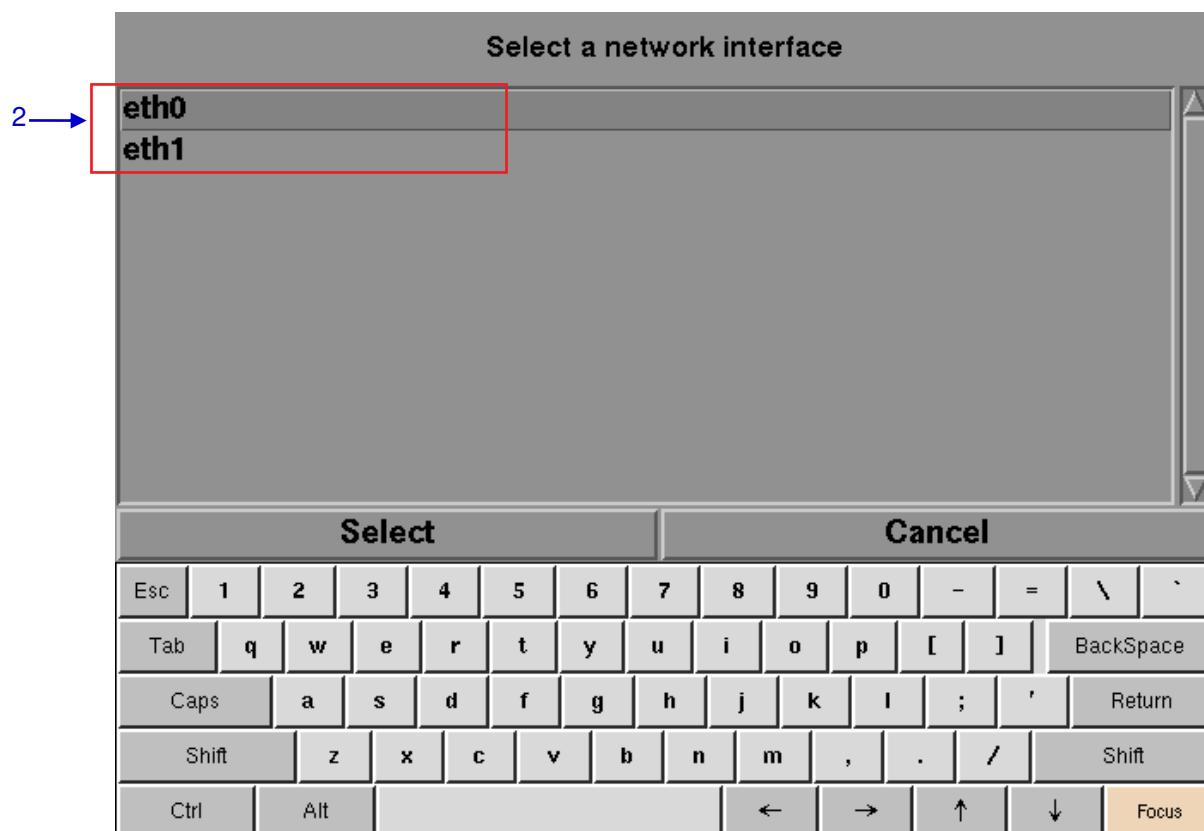

Figure 117 Network interface Selection
- 1 Select **Check IP Conflict** on the **Network**. A new window will appear as shown in **Figure 117**.